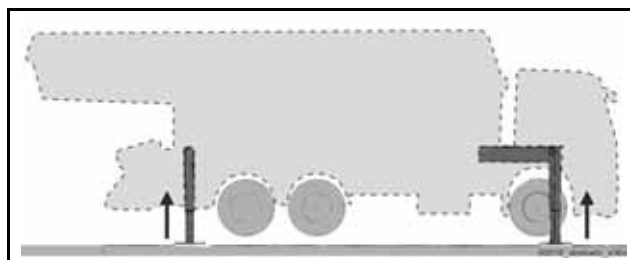

Fig. 424 Tyres are not touching the ground
- Lift the machine by extending the vertical outriggers until all wheels are off the ground (**Fig. 424**).